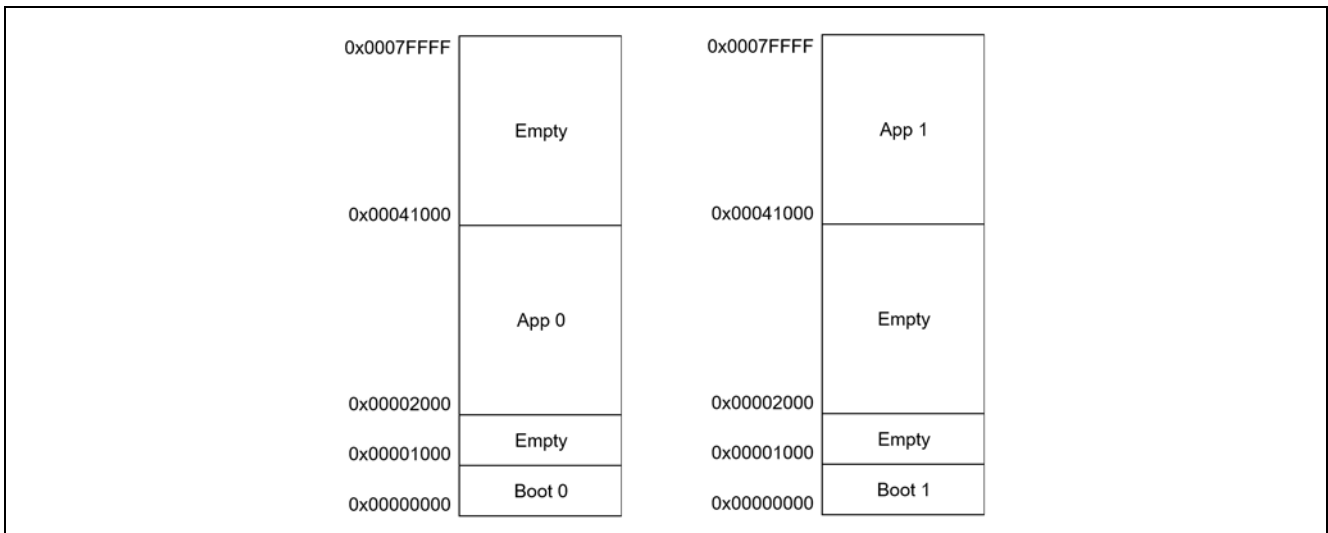

Figure 8. Memory Map of Each Boot *n*/App *n* Image
Figure 8 shows both the Application *n* and Boot *n* programs combined into one image. This figure shows how the image generated during post-build will look for each build configuration.
- The part has been flashed with the Boot 0/App 0 and Boot 1/App 1 images as seen in Figure 8.